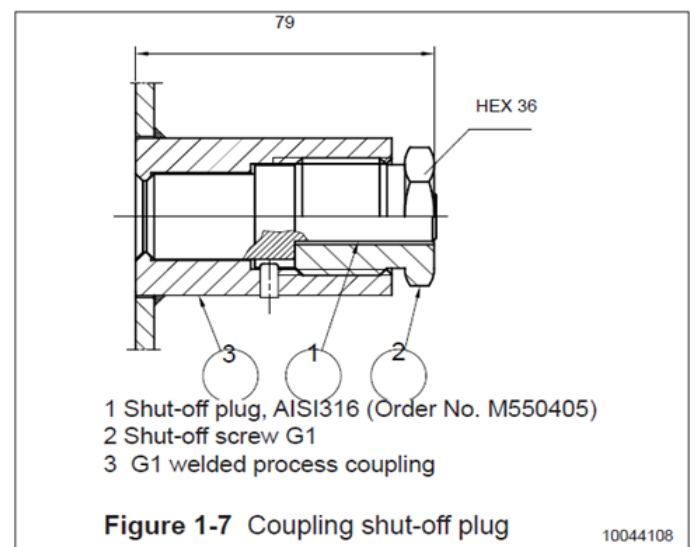

Figure 1-7 Coupling shut-off plug
- The sensor must be out of the coupling while the coupling is welded. You can use the shut-off plug shown in Fig. 1-7 to shut the coupling. The plug protects the coupling's sealing face and permits the starting of the process without the sensor.